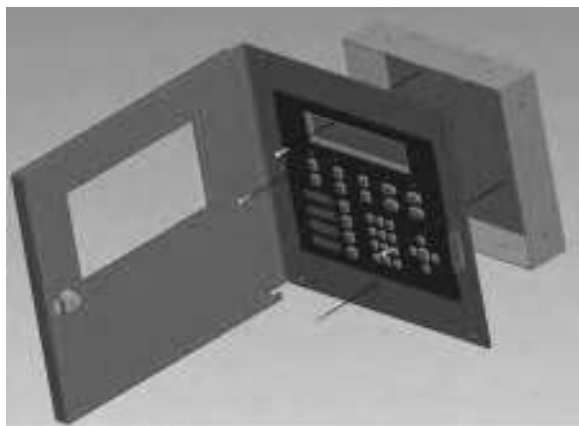

Figure 5: Attaching Annunciator/Door Assembly to Backbox
4. Attach the annunciator and door assembly to back box as shown in Figure 5 using the supplied screws.